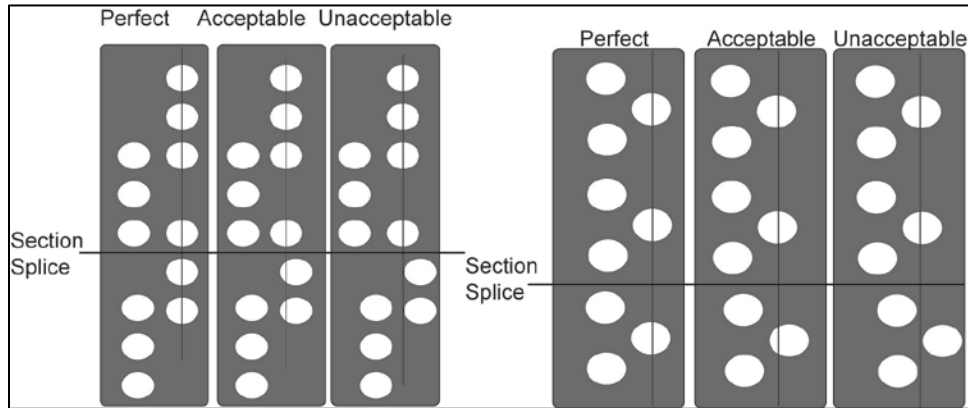

Figure 13: LED Alignment (OT and MT)
9. Verify the LEDs in the display top section and the display bottom section align with each other. Refer to **Figure 13**.